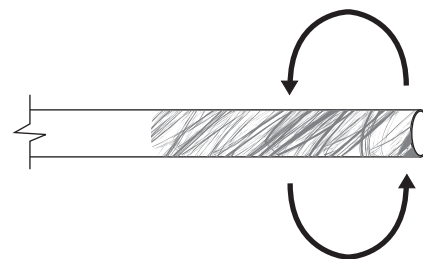

Figure 13
1. SAND BOTH ENDS (fig 13) of the water supply tube. FAILURE TO DO SO MAY RESULT IN LEAKS.